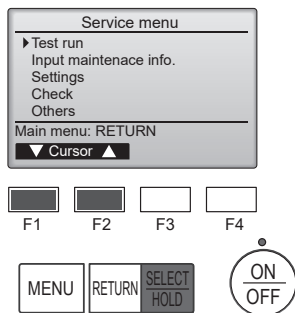

Fig. 7-3
- ③ Select "Test run" with the [F1] or [F2] button, and press the [SELECT/HOLD] button. (Fig. 7-3)